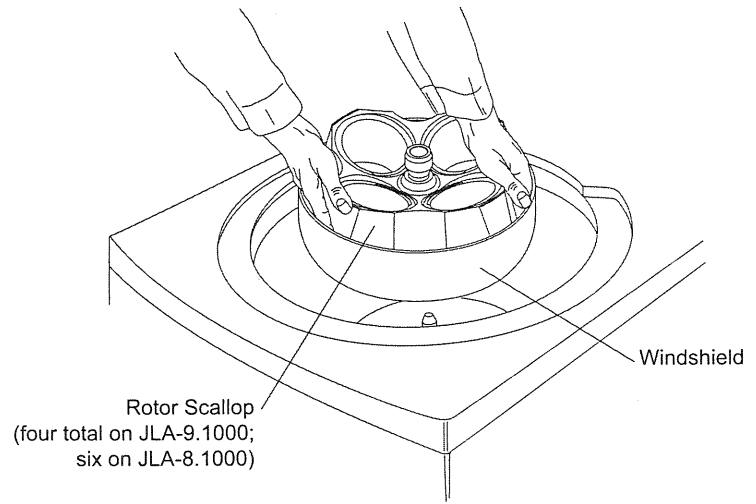

Figure 5. Installing the Rotor (JLA-9.1000 shown)
1. Hold the rotor by the scalloped areas between the cannister cavities and carefully lower the rotor straight down onto the centrifuge drive hub (see Figure 5). Do not hold the rotor by the windshield during installation.